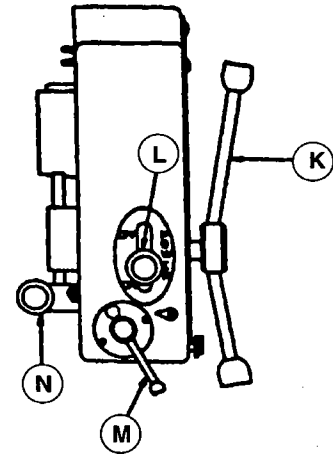

FIGURE 10
On powerfeed models (optional, Figure 10) the feed rate control lever varies in feed in inches/revolution between .004 and .012. Lever (L) engages powerfeed and can be used to manually disengage powerfeed. Trip lever (N) automatically disengages powerfeed